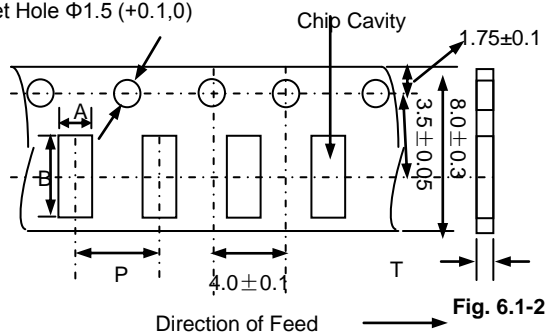

**Fig. 6.1-1**
- Tape carrier packaging are specified in attached figure **Fig.6.1-1~3**